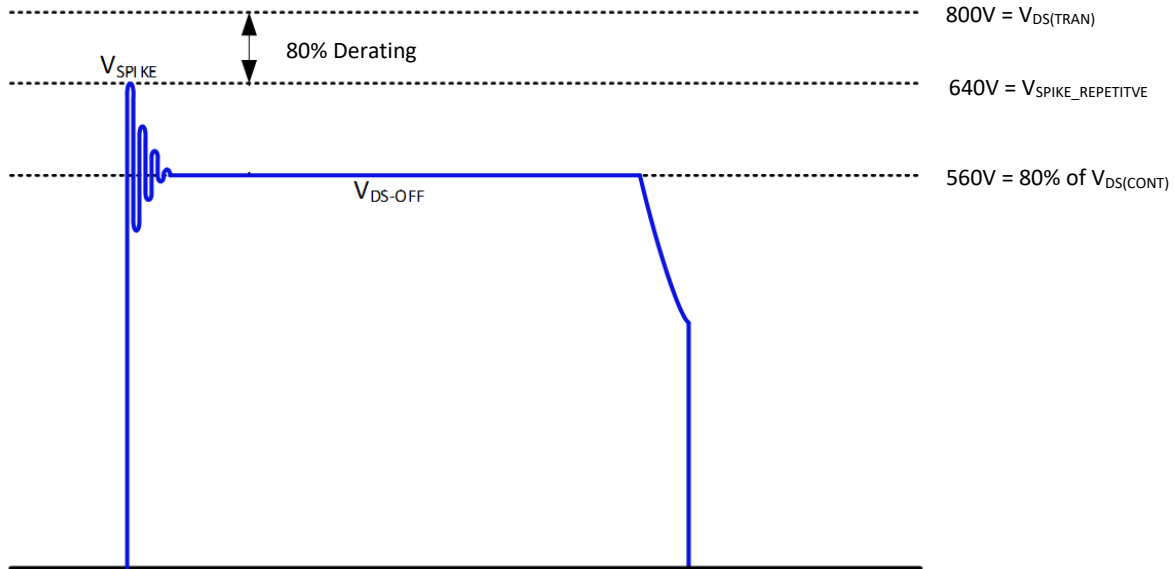

Figure 25. QR flyback drain-to-source voltage stress diagram
GaN Power ICs have been designed and tested to provide significant design margin to handle transient and continuous voltage conditions that are commonly seen in single-ended topologies, such as quasi-resonant (QR) flyback applications. The different voltage levels and recommended margins in a typical QR flyback can be analyzed using Figure 25. When the device is switched off, the energy stored in the transformer leakage inductance will cause  $V_{DS}$  to overshoot to the level of  $V_{SPIKE}$ . The clamp circuit should be designed to control the magnitude of  $V_{SPIKE}$ . After dissipation of the leakage energy, the device  $V_{DS}$  will settle to the level of the bus voltage plus the reflected output voltage which is defined in Figure 25 as  $V_{DS-OFF}$ .